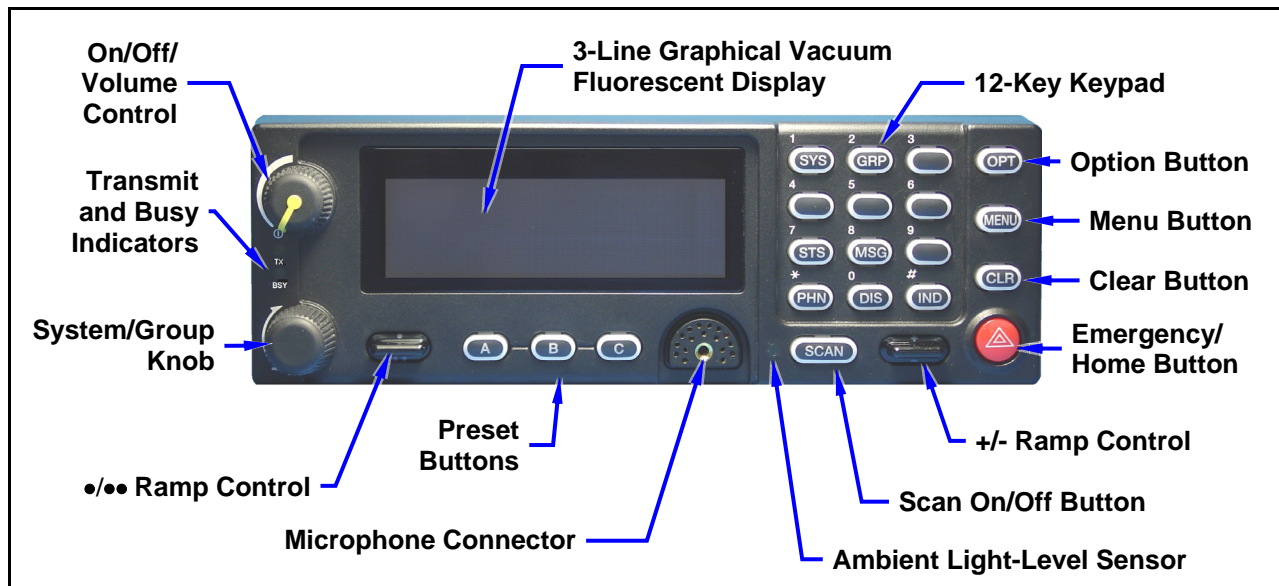

Figure 10-1: CH-721 System Model Control Head Front Panel
The front panel of the CH-721 System mode control head is shown in Figure 10-1. This control head has a large 3-line graphical vacuum-fluorescent display, front panel controls and buttons for user control of the mobile radio, an internal high-power audio amplifier to drive an externally-connected speaker, and a front panel microphone connector. It features a 12-key numeric keypad that provides Dual-Tone Multi-Frequency (DTMF) keypad functionality and easier operator system/group selection, three (3) preset buttons, and an emergency/home button. Other front panel components include a microphone connector and LED-type indicators. One LED indicator is the busy indicator that lights when the radio is receiving a call and one is the transmitter-enabled indicator that lights when the radio is transmitting. The front panel also has an ambient light sensor for automatic display dimming.